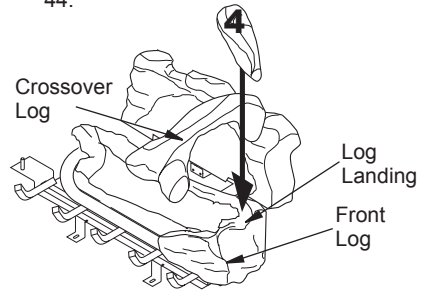

Figure 44 - Installing Log No. 4
4. Place log #4 (right log) onto log landing on right side of front log as shown in Figure 44.